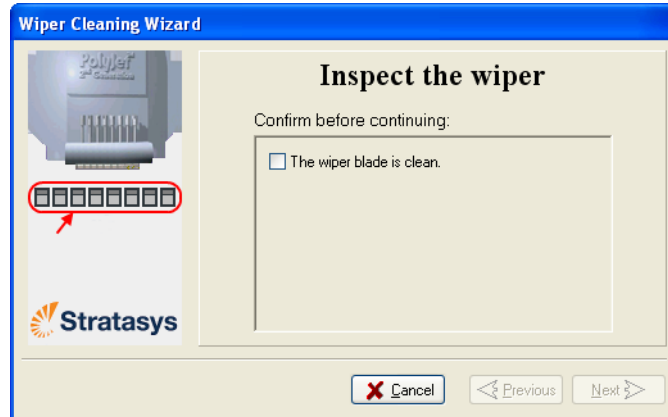

Figure 6-29: Wiper Cleaning wizard during steps 6–10
10. In the wizard screen (see figure 6-29), confirm that the wiper blade is clean, and click Next.